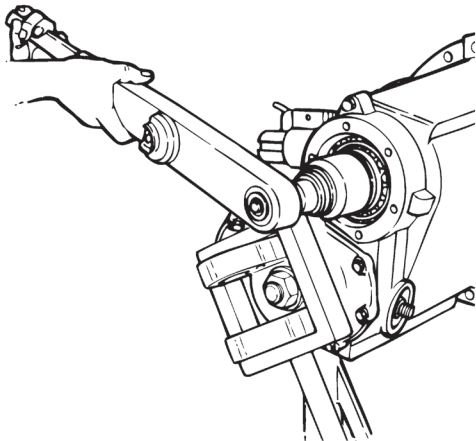

Figure 3.19
3. Use the correct tool to hold the fork or flange of the input shaft. Loosen, but do not remove, the drive pinion nut. Figure 3.19.